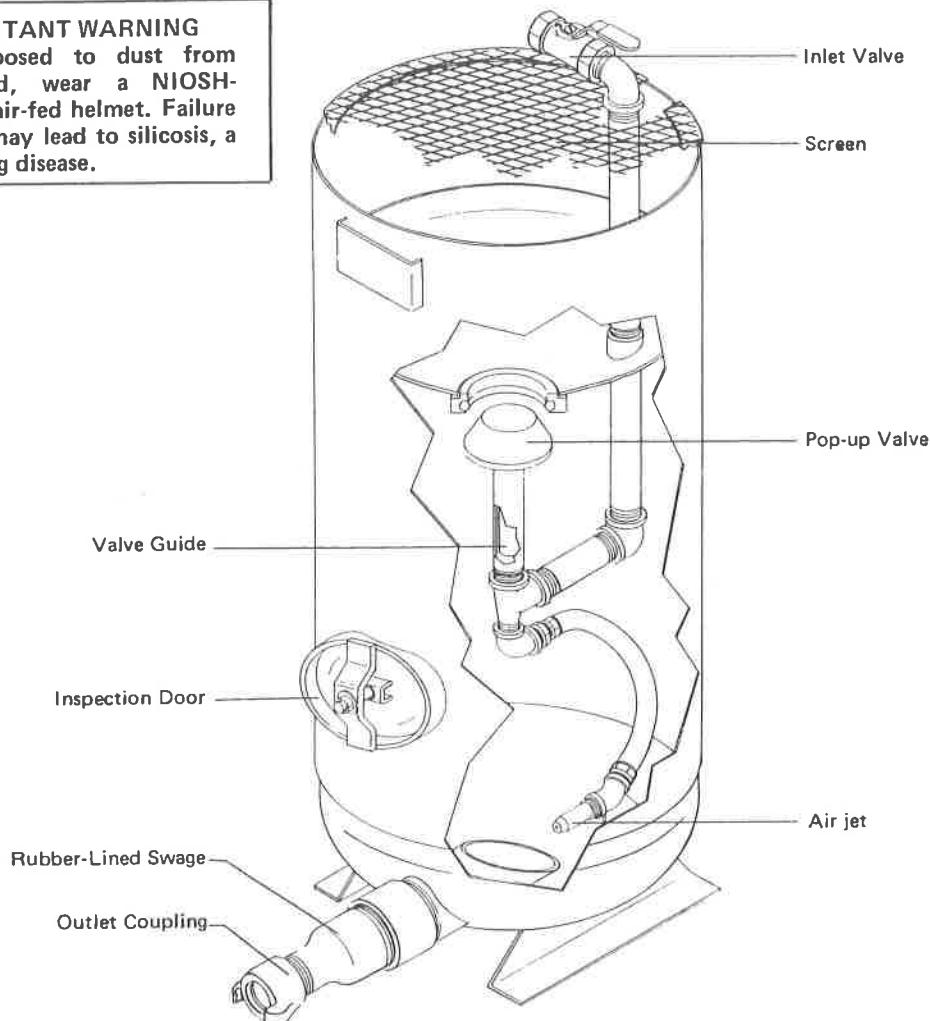

Figure 1
1.1 General Description. Clemco's Pneumatic Abrasive Conveyor (PAC) moves abrasive by means of compressed air. Air entering the unit through the inlet valve (Figure 1) causes the pop-up valve to seat and the vessel pressurizes. An air jet at the bottom of the unit entrains abrasive and forces it through the rubber-lined swage into the abrasive hose, which carries it to its destination.
3.1 Replacing the Pop-Up Valve. To gain access to the pop-up valve, remove the inspection door assembly. Using a small pipe wrench, unscrew the pop-up valve guide (Figure 1) by turning it counter-clockwise. Remove the pop-up valve and guide from the machine, install the new pop-up valve and then screw the valve guide (with the pop-up valve in it) back into position inside the machine. Put a new gasket on the inspection door assembly before bolting the door back onto the machine. After tightening the bolts, test for leaks.